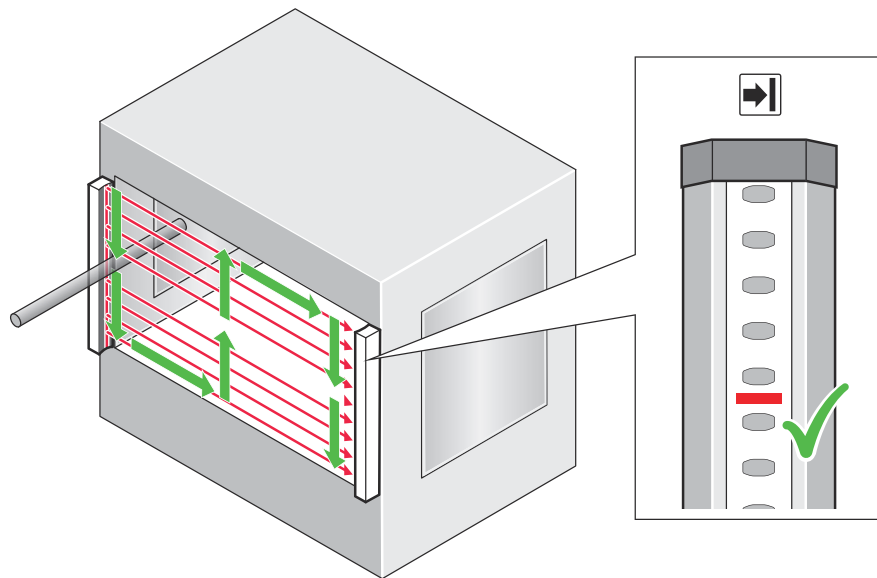

Figure 49: Test rod check: Step 1
1. Move the test rod slowly through the area to be protected (e.g., machine opening), as indicated by the arrow, see figure 49.